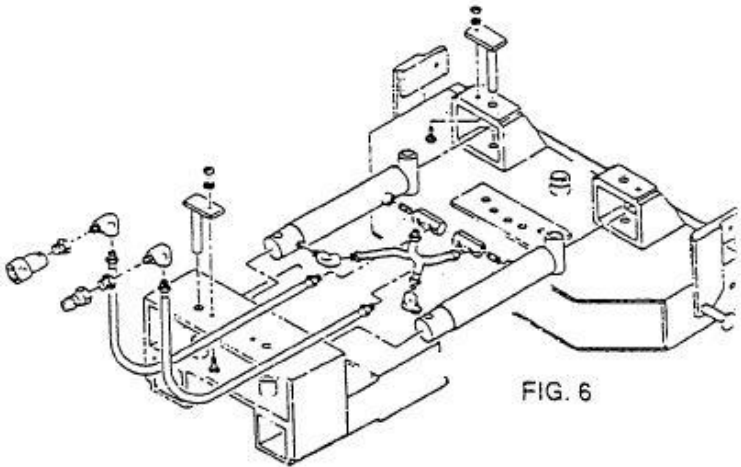

FIG. 6
- (1) Insert a 1/4 x 45° steel st. elbow into the rear ports on both cylinders. Use pipe compound on the threads. See FIG. 6.
(2) Insert a 1/4" close nipple and hex fitting into the front ports on both cylinders. Use pipe compound on the threads. See FIG. 6. NOTE: Tighten the hex fittings and nipples very tightly into the cylinders.
(3) Attach the rear of the angle cylinders to the skid steer frame and the rod end of the angle cylinders to the pivot assembly. Use a pin weldment and secure with a 3/8-16 x 1-1/4" hex hd. capscrew, lockwasher, and nut. Both cylinders and both ends. See FIG. 6.
(4) Connect the (2) 1/4 x 10" hydraulic hoses to the angle cylinders as shown in FIG. 6. Use pipe compound on the threads.
(5) Connect the (2) 1/4 x 66 hydraulic hoses to the hex fittings on the angle cylinders. Use pipe compound on the threads. See FIG. 6. See note below.
(6) Attach a 1/2" quick coupler-male on one hose and a 1/2" quick coupler-female on the other hose using a 3/8-1/2" hex reducing bushing and a 3/8 x 90° steel st. elbow on each hose. Use pipe compound on the threads. As shown in FIG.6.